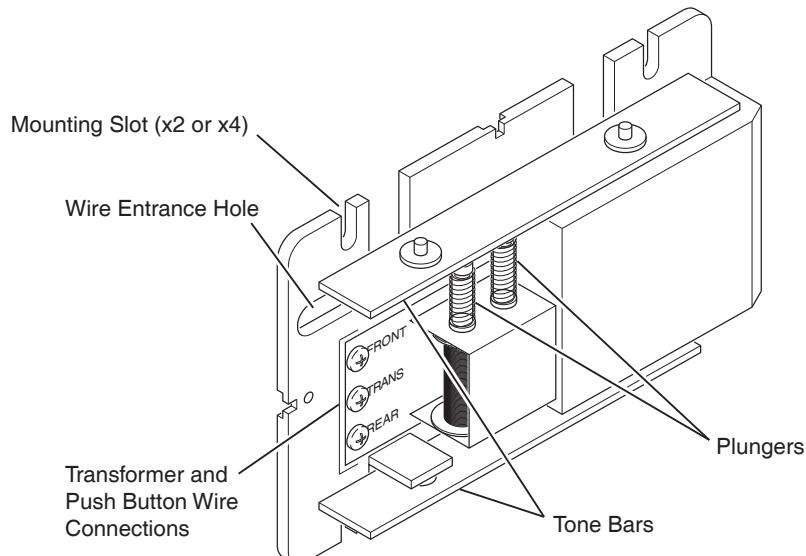

Figure 1 - Mechanical Chime Identification
- Remove the two cable ties and white cotton pieces that are beneath the Tone Bars (see figure 1 for the image of the tone bars).
Most chimes have screw terminals that are marked "Front" (front door), "Rear" (rear or side door wire) and "Trans" (transformer) (see figure 1). The wires coming out of the wall connect to these terminals (you may not have a rear wire). Use masking or electrical tape to label these wires so that you do not forget which wire is which when installing the new chime. Marke "F" for the front wire, "R" for the rear wire and "T" for the transformer wire.